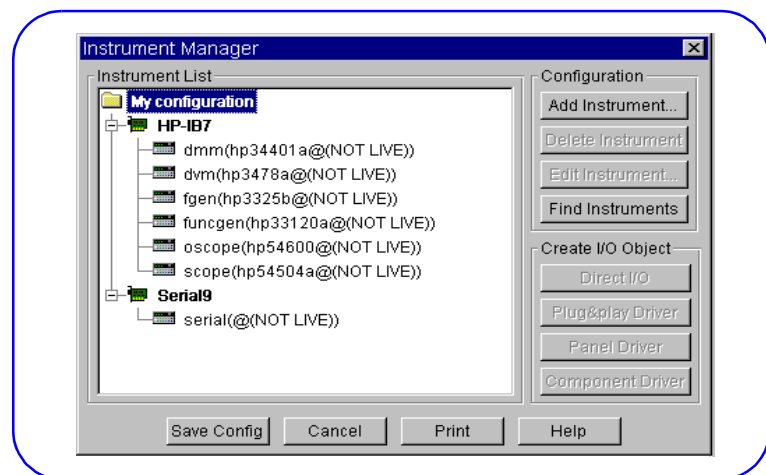

Figure 34. HP VEE Instrument Manager - Default Screen
- 1 To run this example, turn PC and mainframe power ON and open HP VEE. Then, select the *I/O|Instrument Manager...* menu item to display the default Instrument Manager screen (see Figure 34).